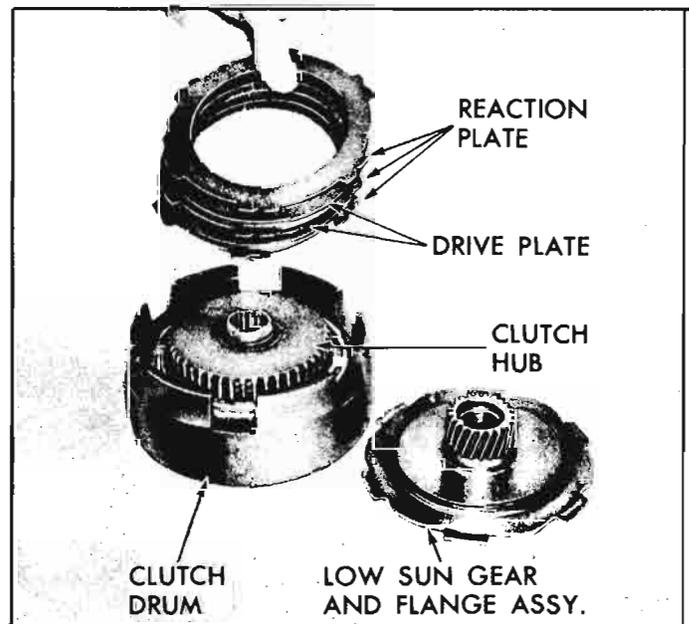

Fig. 6E-37—Installing Clutch Drum Plates
illustrated in Figure 6E-36. With springs fully compressed, install snap ring (8) in groove on clutch drum hub with Truarc pliers.
5. Install hub front thrust washer (11) with its lip toward the clutch drum, then install the clutch hub (12).